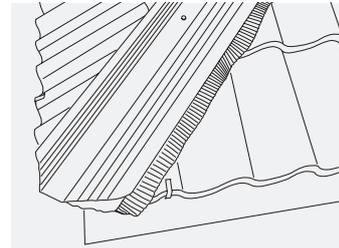

Fig. 9 – HipFast support tray cut at eaves
- 9 In all applications it is recommended that HipFast support trays (34002) be used. These are designed to ensure the correct support and alignment of hip tiles. Cut a HipFast Hip Support Tray to suit angle and overhang of tiles at eaves (Fig. 9).